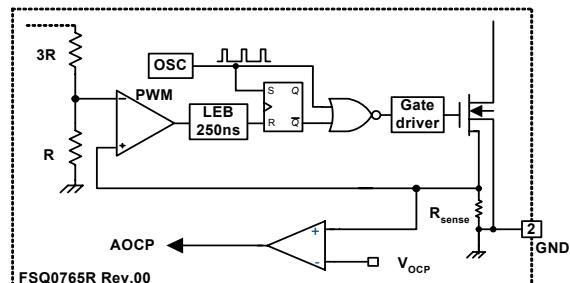

Figure 30. Abnormal Over-Current Protection
4.2 Abnormal Over-Current Protection (AOCP): When the secondary rectifier diodes or the transformer pins are shorted, a steep current with extremely high dI/dt can flow through the SenseFET during the LEB time. Even though the FSQ-series has overload protection, it is not enough to protect the FSQ-series in that abnormal case, since severe current stress is imposed on the SenseFET until OLP triggers. The FSQ-series has an internal AOCP circuit shown in Figure 30. When the gate turn-on signal is applied to the power SenseFET, the AOCP block is enabled and monitors the current through the sensing resistor. The voltage across the resistor is compared with a preset AOCP level. If the sensing resistor voltage is greater than the AOCP level, the set signal is applied to the latch, resulting in the shutdown of the SMPS.